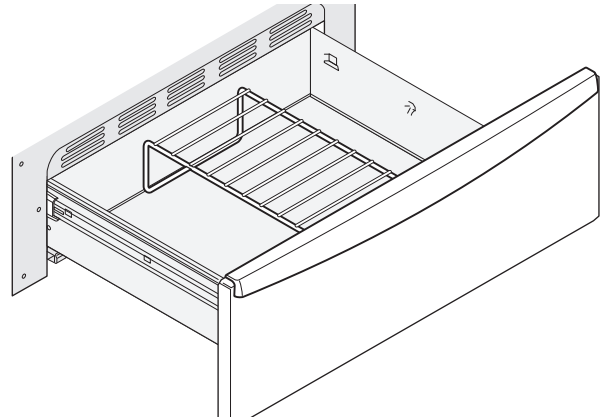

Figure 44: Warmer drawer rack in upright position
- In the **upright position** (Figure 44) to allow low profile food items to be placed both under and on top of the rack (for example, rolls or biscuits on top of the rack and a casserole dish underneath).